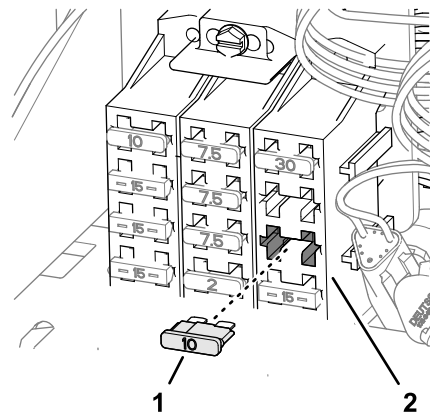

Figure 190
8. Insert the fuse (10 A) into the fuse-block socket (Figure 190) for the options power circuit that you used in step 5.